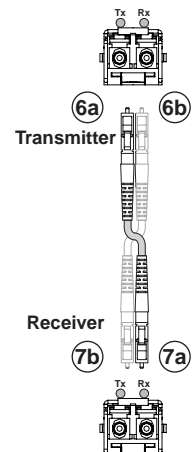

Figure 3. One Way Configuration
- **One way (transmitter to receiver) only** — Connect a fiber cable to connector ⑦a from transmitter connector ⑥a **only** (see figure 3).